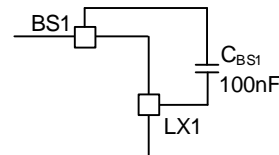

Figure5. External Bootstrap Capacitor Connection
The SY21612B provides a function for VBUS output current limit by sensing the voltage drop between VBUS pin and ISEN pin (as shown in figure5). Once the voltage difference ( $V_{VBUS} - V_{ISEN}$ ) exceeds the voltage threshold, which can be configured by register 0x02[7:5], the internal control loop will regulate the output current by decreasing duty cycle until UVP or OTP is triggered. Noticing that the effects of  $R_{PIN}$  and  $R_{WIRE}$  cannot be ignored, the actual limit current  $I_{LIMIT}$  can be calculated as given in Equation (2):